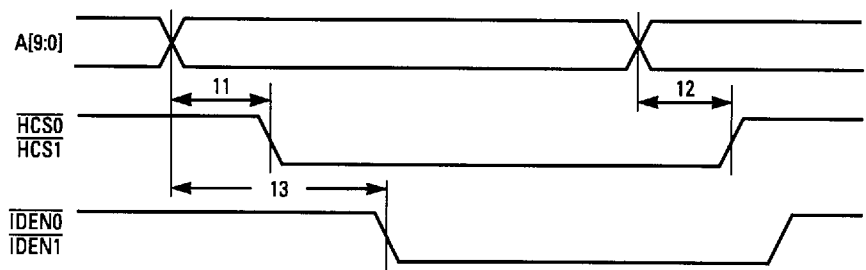

Figure 5.5
- Figure 5.5, "Serial Port Interface Timings"